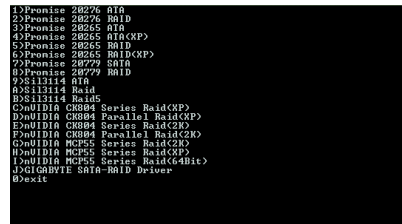
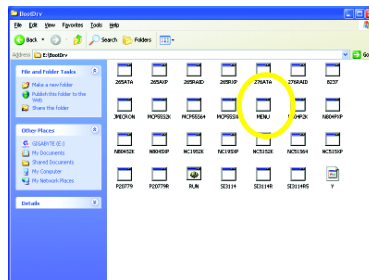

Figure 11
Figure 12
Step 2: When the controller menu (Figure 11) appears, remove the startup disk and insert the blank formatted disk. Select the controller driver by pressing the corresponding letter from the menu. For example, from the menu in Figure 11, press I to select **H) nVIDIA MCP55 Series Raid (XP)** if you wish to install Windows XP. Your system will then automatically zip and transfer this driver file to the floppy disk. Press 0 to exit when finished.
Use an alternative system and insert the GIGABYTE motherboard driver CD-ROM. From the CD-ROM drive folder, double click the **MENU.exe** file in the **BootDrv** folder (Figure 12). A command prompt window will open similar to that in Figure 11.